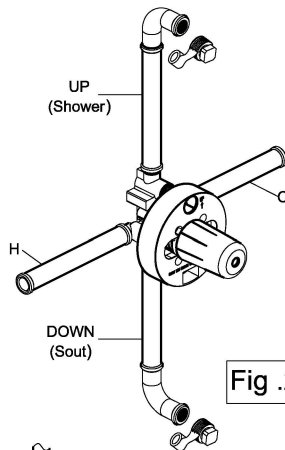

Fig .2
- A. Position valve body correctly in wall (see Fig. 2 ).